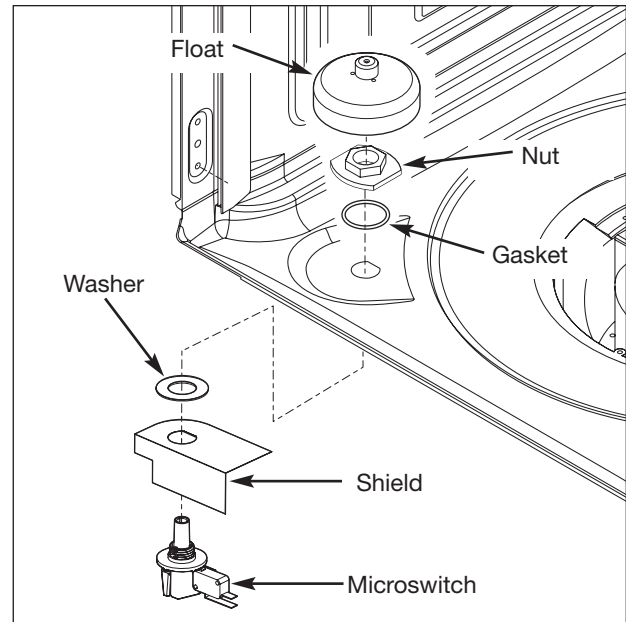

Figure 5-32. Float Switch Removal
5. Using a 15/16" socket or wrench, remove the plastic retaining nut from the float switch assembly. (See Figure 5-32)